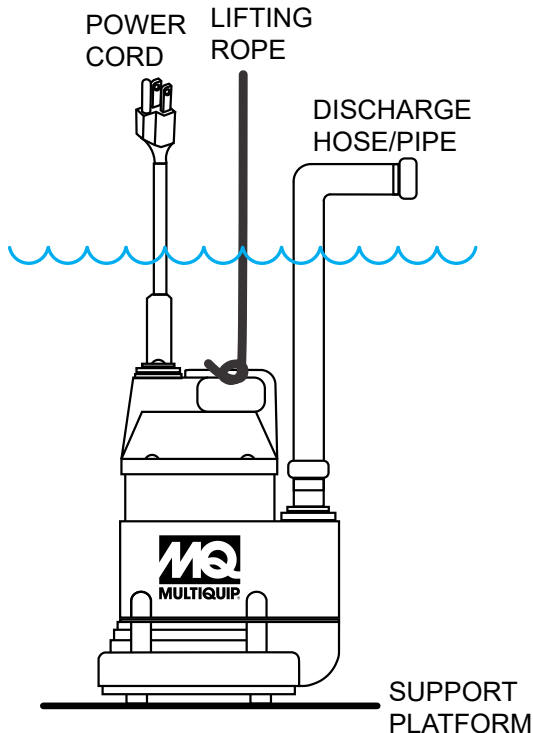
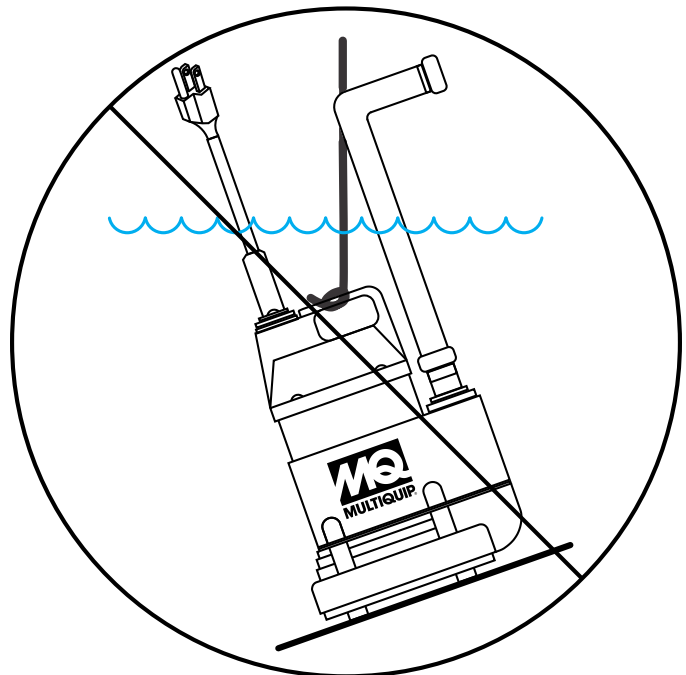

Figure 4. Submersible Pump Upright Position
Figure 5. Submersible Pump Tilted Position
2. The pump should be installed in a free standing (upright) position. See Figure 4 and Figure 5.